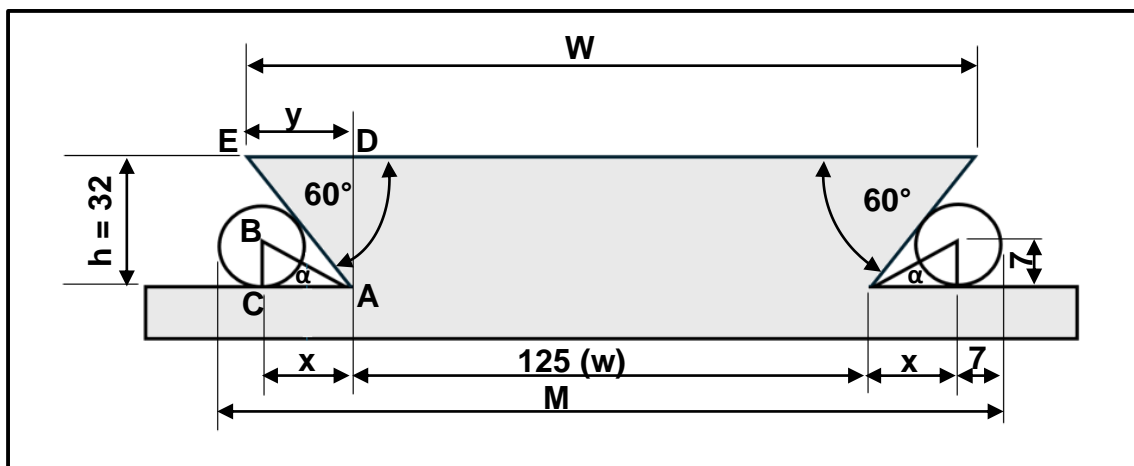

FIGURE 6.2
- 6.2 FIGURE 6.2 below shows an internal dovetail component.